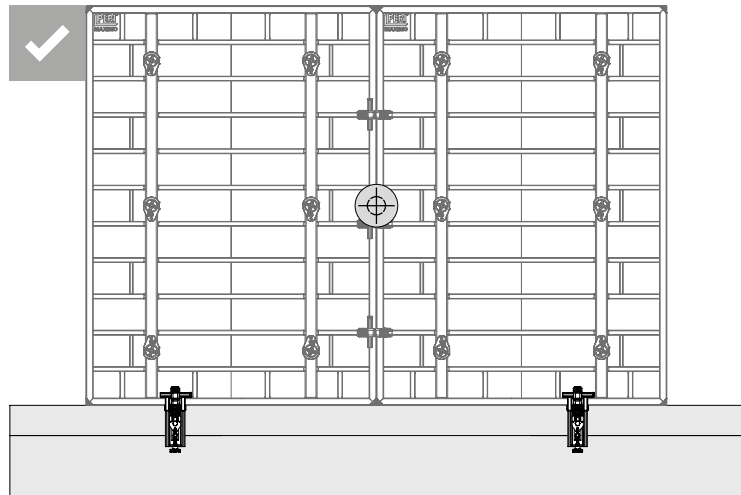

Fig. B1.05
- A lifting unit must always cover two wall formwork consoles. (Fig. B1.05)